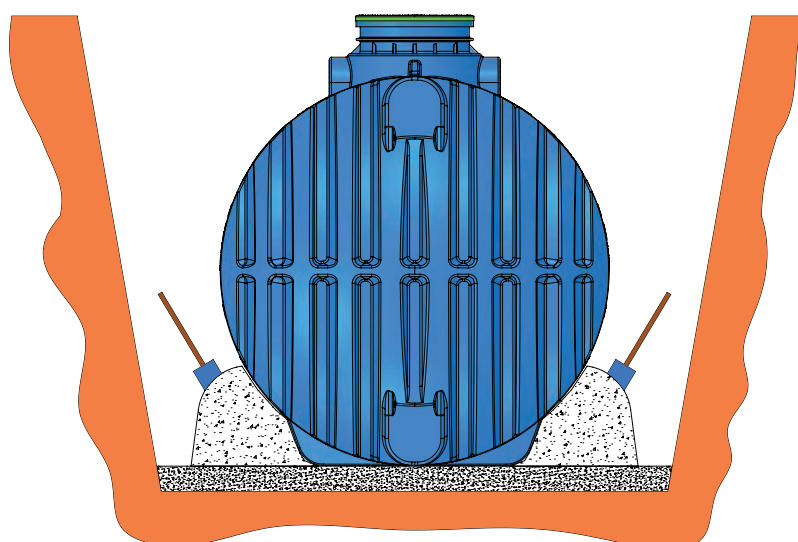

Figure 5: Reinforcing the tank from the side
**Place the tank in the prepared construction pit. First, pour 30 cm of water into the tank. Then fill the space between the tank and the base using hand-held tools – see Figure 5.**